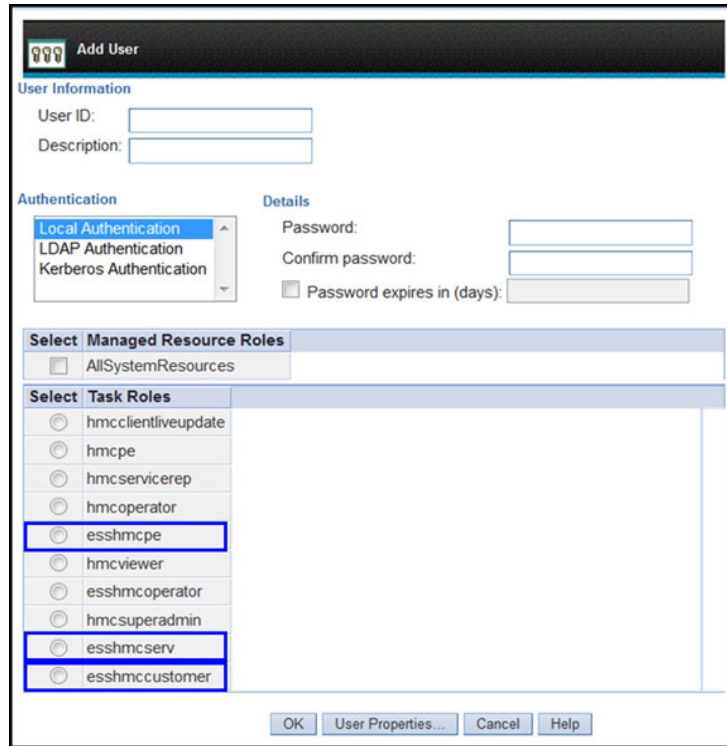

Figure 6-22 Add User window
2. Click **Add**. The Add User window opens, as shown in Figure 6-22.